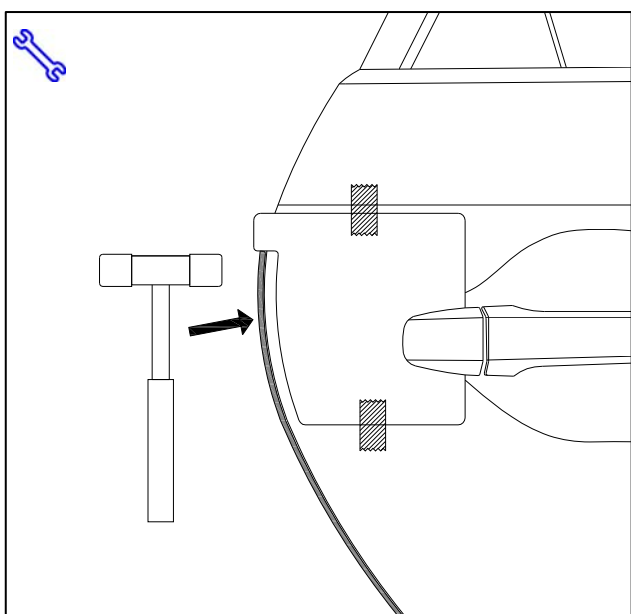

Fig. 1-5
- (e) While holding DEG in proper alignment with one hand, use **soft side of the rubber mallet** to begin tapping the channel onto the door edge starting at the top of the DEG. (Fig. 1-5),